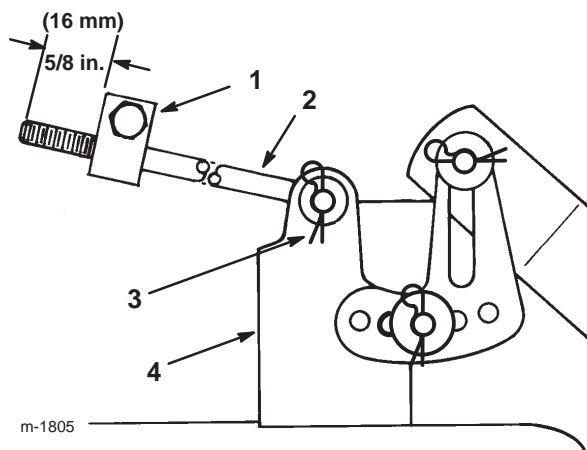

Figure 51
4. Measure the length of the rod extending out of the front of the adjusting block on the sides of the chassis (Fig. 51).
Note: If the rod length is not 5/8 in. (16 mm), remove the hairpin cotter and washer from the end of the rod (Fig. 51) and turn the rod until you obtain the 5/8 in. (16 mm) dimension.